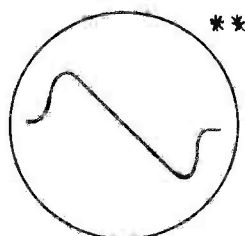
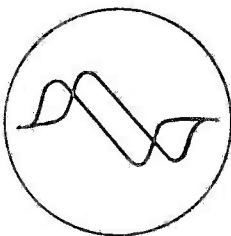
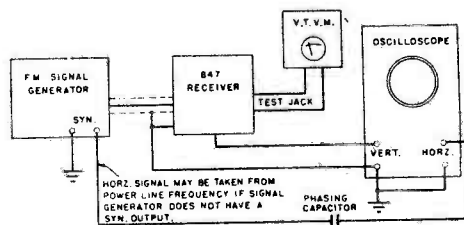

Fig. 5
Fig. 6
Fig. 7
* Some phase shift between the Signal Generator and the scope horizontal sweep may be encountered, resulting in a double trace pattern, shown in Fig. 6. In some Oscilloscopes, provision is made for connecting this phase shift directly in the oscilloscope circuit. If so, rotate the "phase shift" control until the curves coincide as in Fig. 5. If no provision is made in the scope, the connection might be accomplished by inserting a condenser of suitable value in series with the signal generator "Synchronized Sweep Voltage" output. The condenser value will depend upon the amount of phase shift and the horizontal input impedance of the scope - approximate condenser range .01 to .1 mfd. See Fig. 7 for instrument connection diagram.